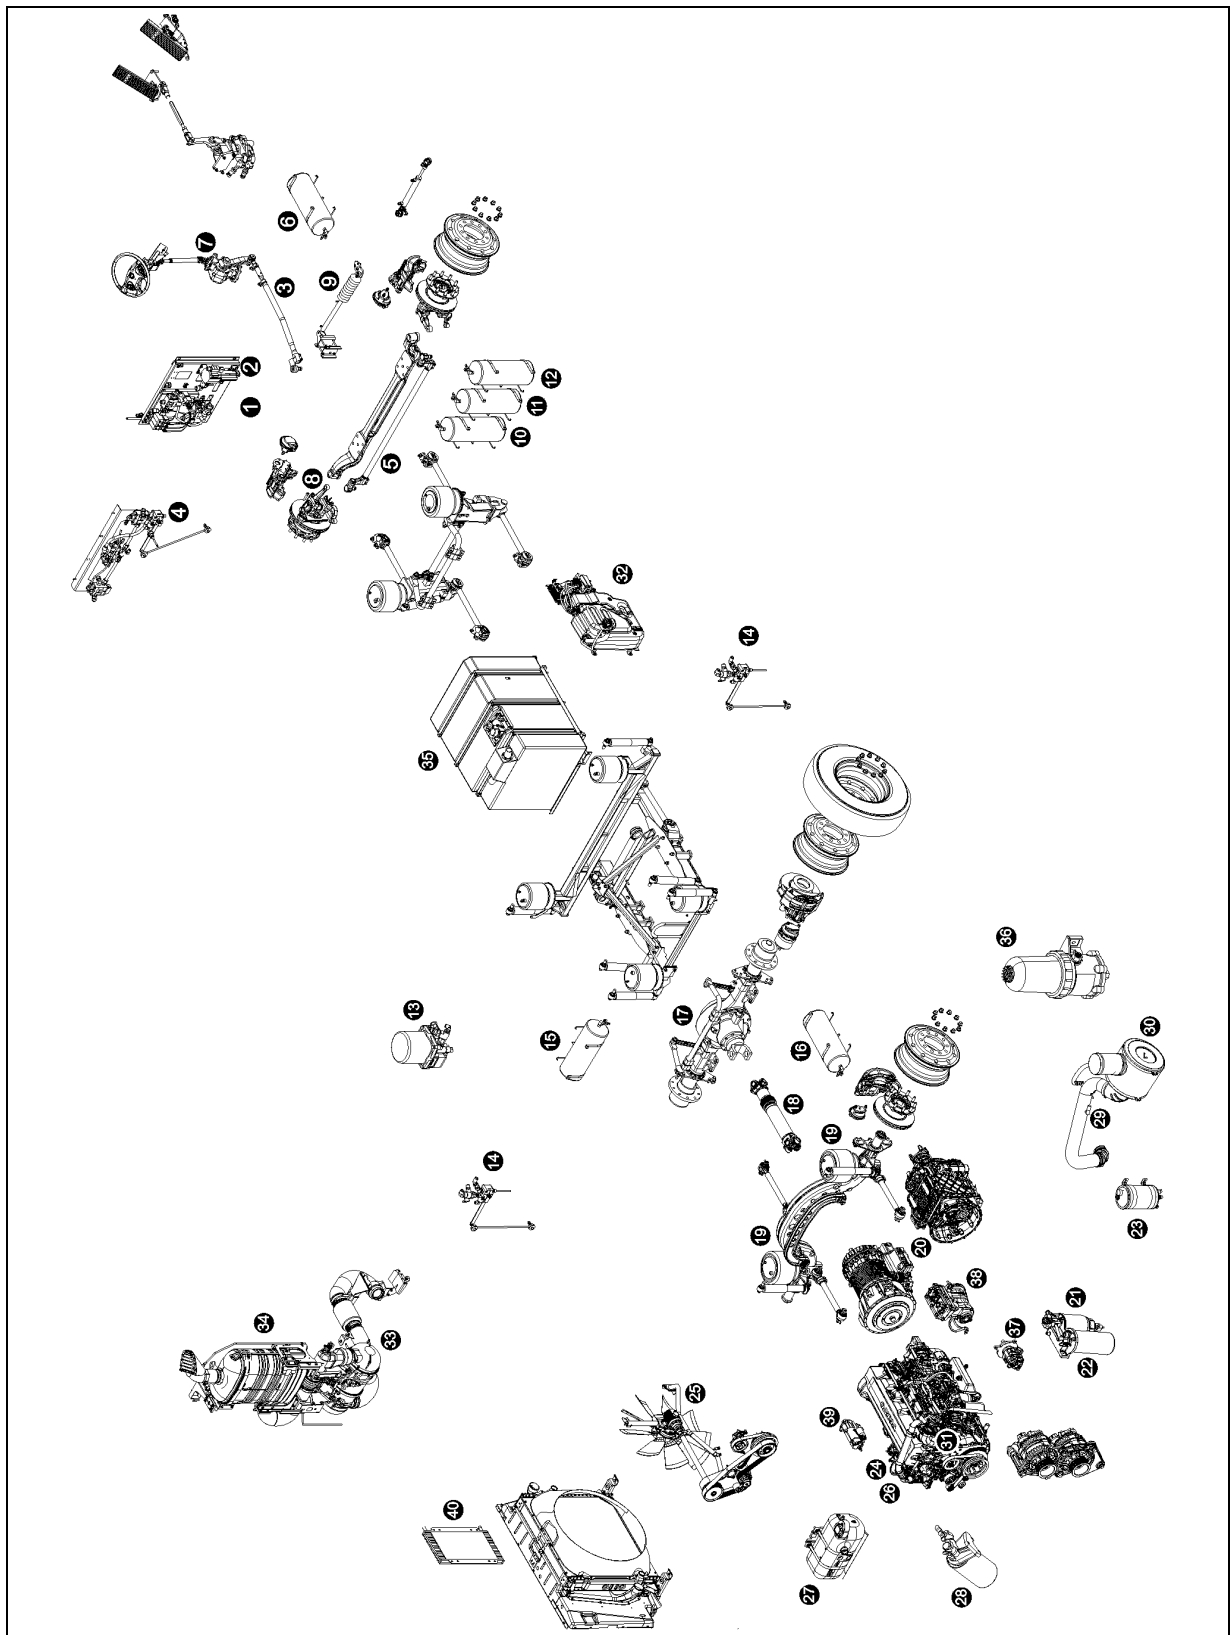

FIGURE 1: LUBRICATION AND SERVICING POINTS ON I-BEAM AXLE FRONT SUSPENSION VEHICLES 24030_1
- FIGURE 1: LUBRICATION AND SERVICING POINTS ON I-BEAM AXLE FRONT SUSPENSION VEHICLES4